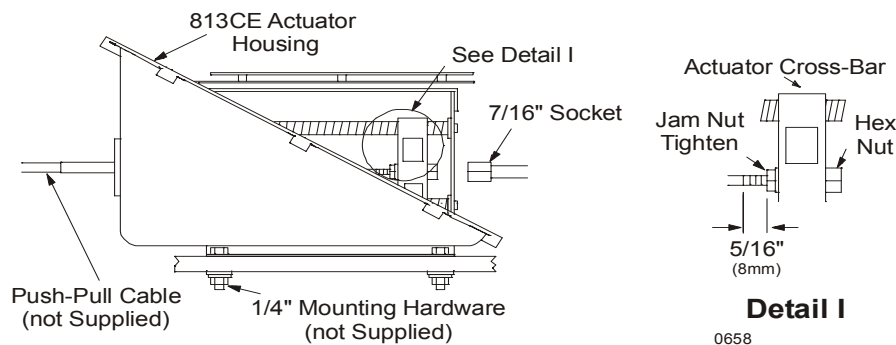

Figure 7: 813CE Push-Pull Cable Connections
- A) Refer to Figure 7:.
- E) When the push-pull cable end is visible within the 813CE interior, reinstall the #10-32 jam nut such that there is approximately 5/16 inch (7,9mm) of thread showing beyond the jam nut. Refer to Figure 7:, Detail I.